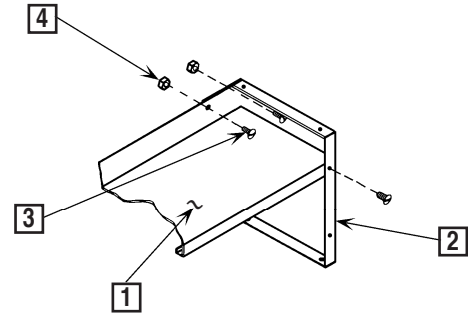

FIGURE 14
- Place the end of the ledge shelf (Item 1) in between the flanges of the ledge end (Item 2). The two holes on the back of the shelf must align with the top two ovals on the rear flange of the ledge end. Align the hole in the front flange of the ledge shelf with the top hole on the front flange of the ledge end. Fasten the ledge shelf to the ledge end with (3) screws and nuts (Items 3 & 4) as provided. See Figure 14. Repeat procedure at the other end.